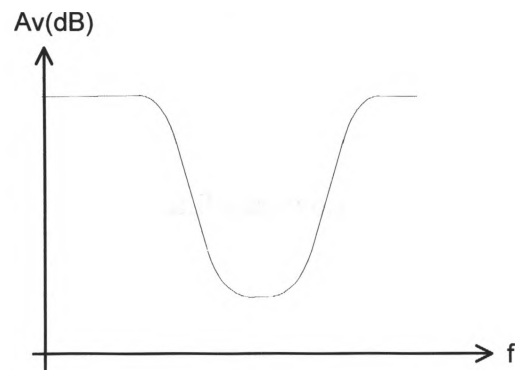

Figure 2
2. What type of filter has the frequency response shown in Figure 2 below?